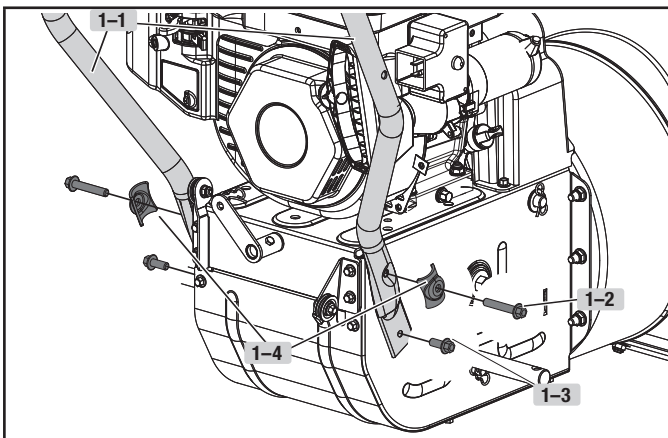

Figure 1
1. Attach the lower handle (1-1) onto the unit body with bolts (1-2, 1-3) and washers (1-4) (Fig. 1). Repeat on the other side.